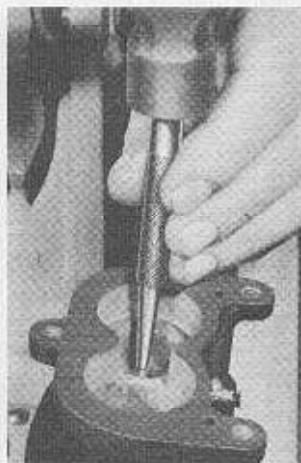

Fig. 28
**39** Stake end of brass throttle plate screws with center punch #9518-D and anvil #9518-C, as shown in Fig. 28, so they will not come loose. Be sure to place throttle body assembly on the anvil with proper side on highest side of anvil. If it is placed on anvil improperly, throttle plates will be wedged tightly into throttle body throat and the parts ruined.
- (2) 40-9541 Needle—idle adjusting